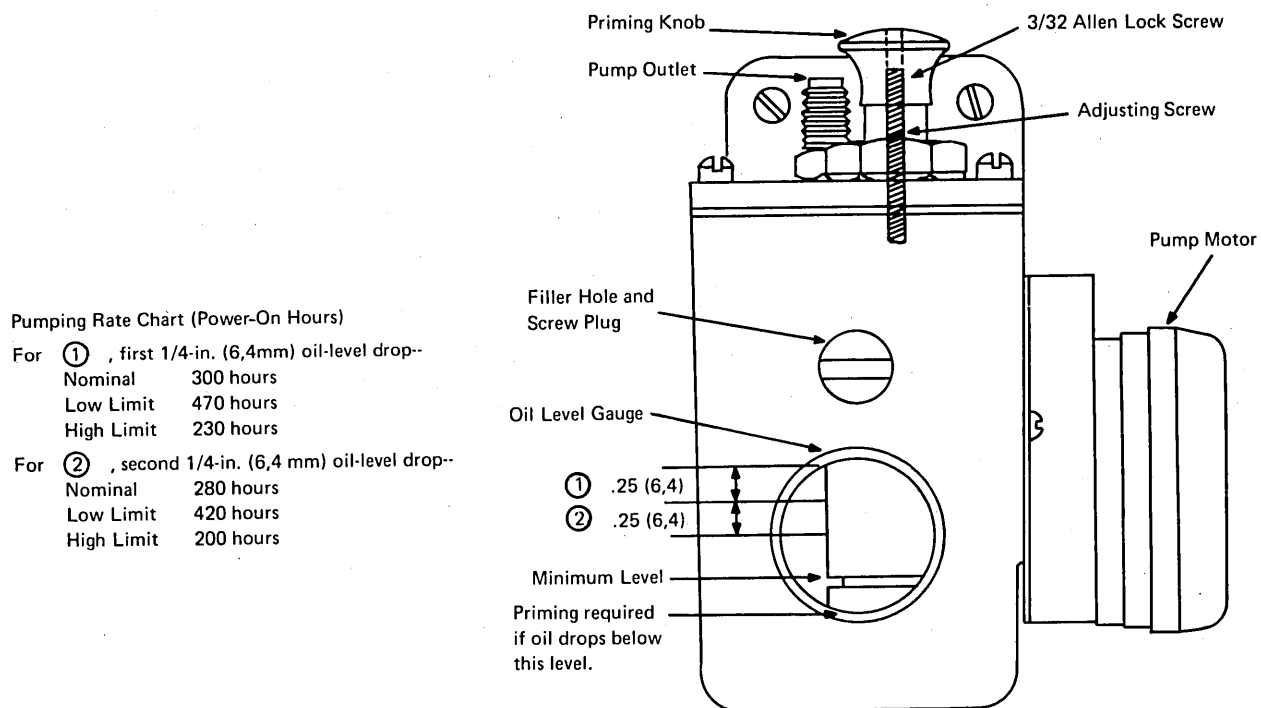

Figure 4-41. Train Lubricator and Pumping Rates
The train oil pump with reservoir (Figure 4-41) is located near the hinge on the lower right side of the T-casting. The factory-adjusted pump delivers .013 to .027 cc per stroke every half hour the train runs. A check valve prevents oil from running back into the reservoir. See Train Service Hints 6 and 7.
Lubricators that give incorrect delivery should be replaced. (Do not disassemble pump; rebuilt and recalibrated at factory *only*.) Normal delivery rate lowers the oil level in the oil level gauge 1/4 inch (6, 4 mm) for each 300 hours of train running time. (Figure 4-41 shows maximum and minimum rates.) Too much lubrication may result in oil on the ribbon and/or forms during long idle periods; too little lubrication can result in train failure. A brown stain on the cartridge rails indicates overheating due to inadequate lubrication.
- Check the delivery rate before decreasing lubricator output (Figure 4-41).